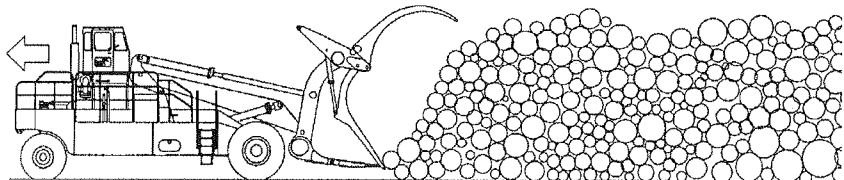

Fig 4-14
- Continue backing and lowering until all the logs are out of the carriage. See Fig. 4-14